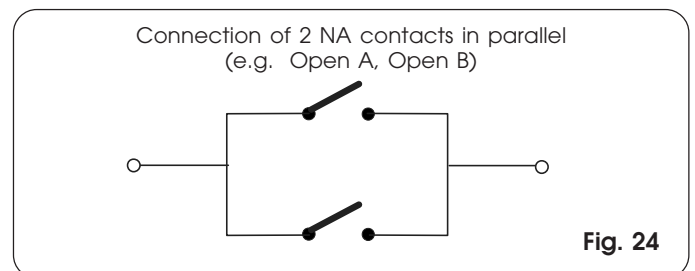

Fig. 24
**N.B.:** If two devices with NA contact have the same function, they must be connected to each other in parallel (Fig. 24).